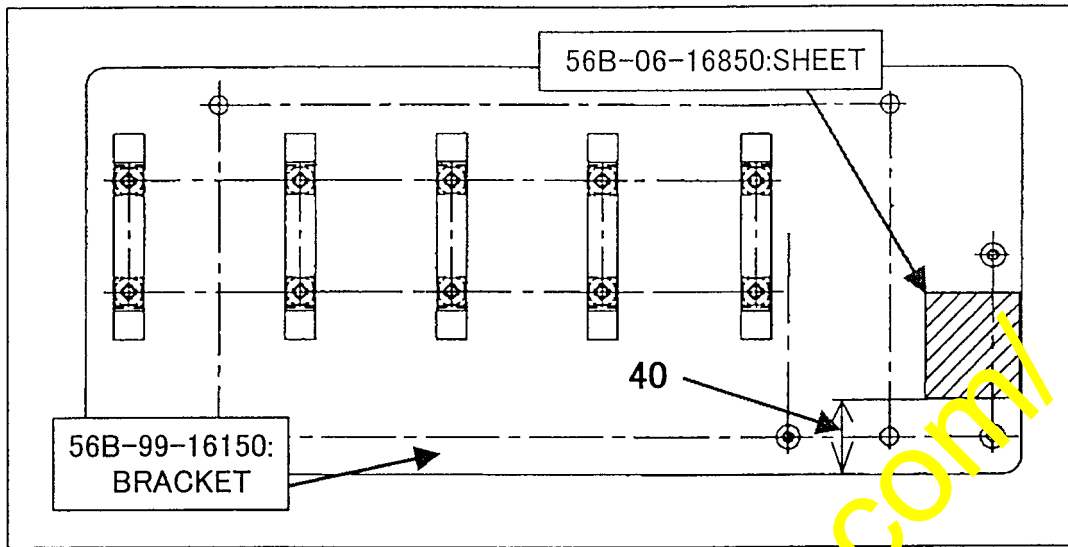

Fig. 27
- (1) Paste the cushion sheet (56B-06-16850) for the improved relay (56B-06-16840) to the new relay mounting plate (56B-99-16150). (Refer to Fig. 27.)